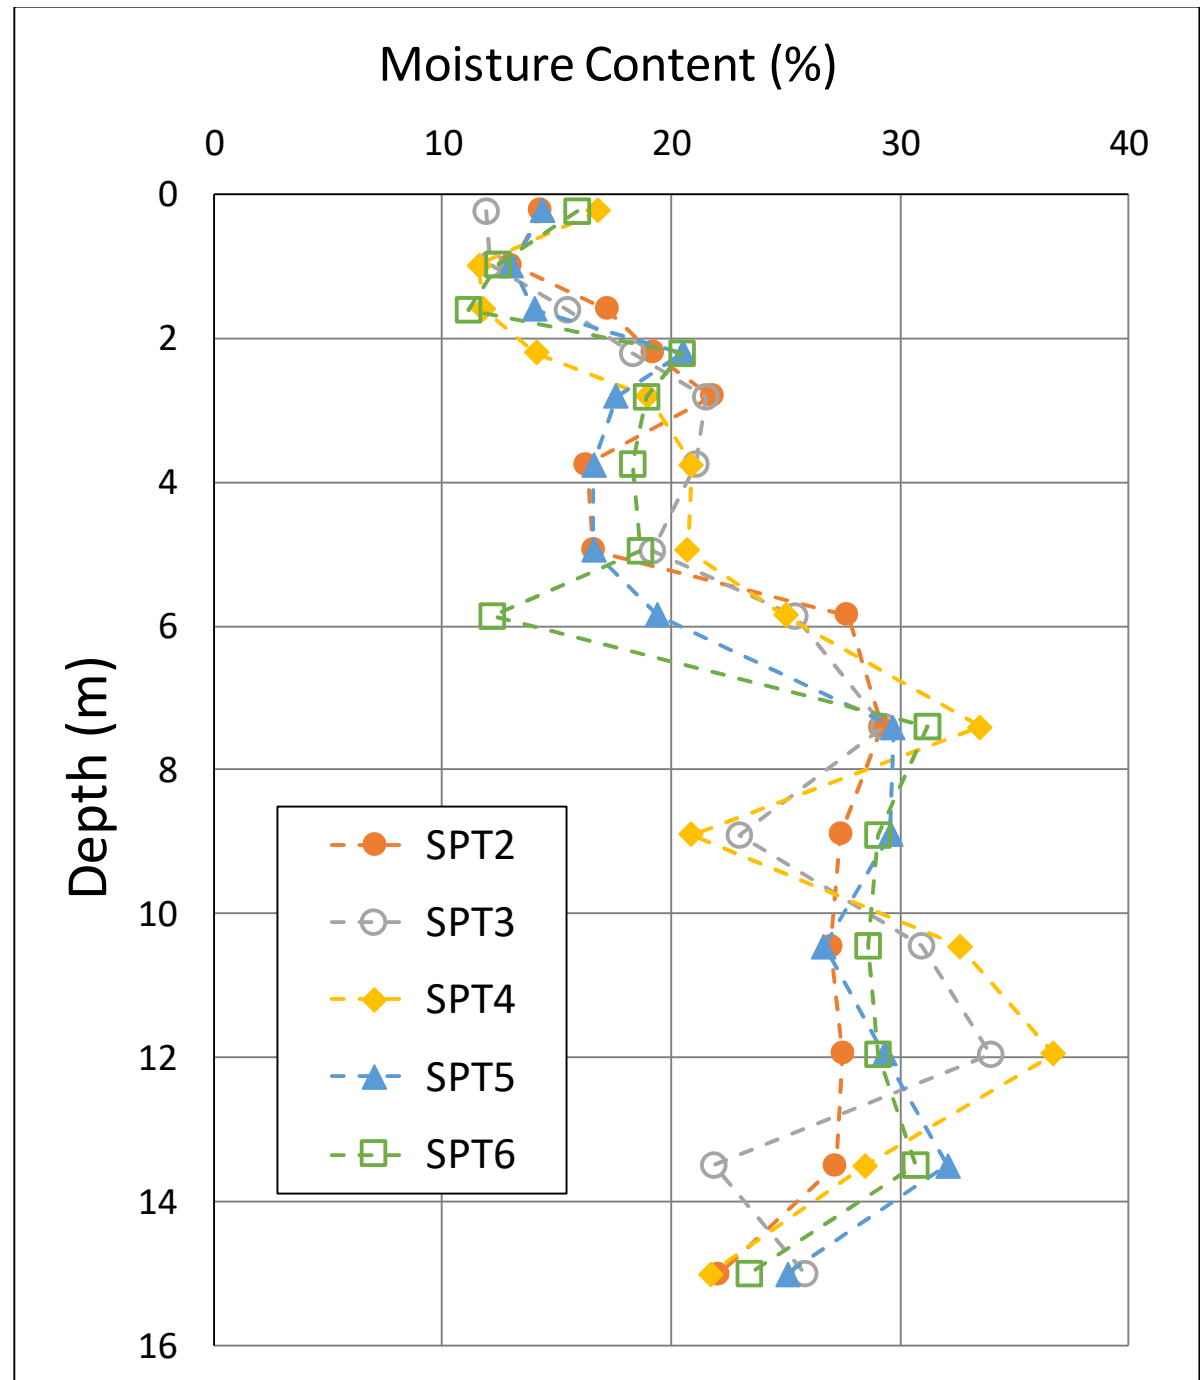

Figure B3: SAND PROFILE - Summary of Moisture Content results
- Figure B3: Moisture content results